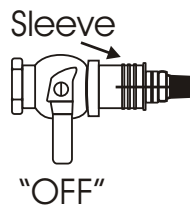

Fig. 27
3. Push the plug until the sleeve snaps forward, locking the plug into the socket. (Fig. 27)